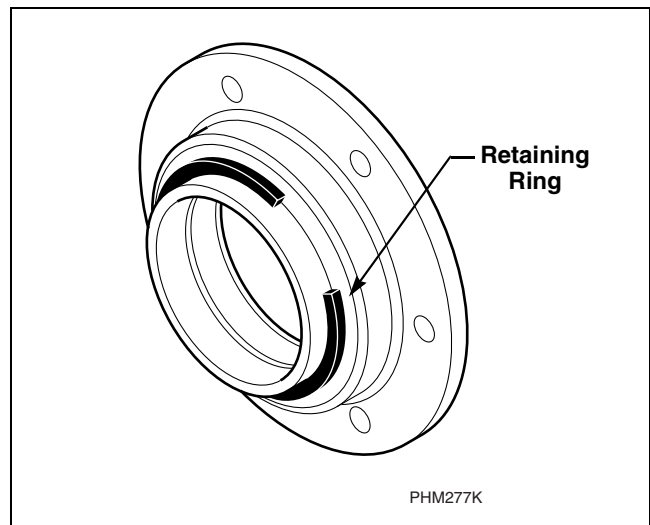

Figure 35
- y. After the bearings are set, check to see if the metal ring on the seal is against the nylon retainer. If needed, slide the brass collar forward until the ring comes into contact with the nylon. This will set the correct seal spring compression. Refer to *Figure 35*.
- aa. Remove the retaining ring from the cartridge seal using a screwdriver. Refer to *Figure 35*.